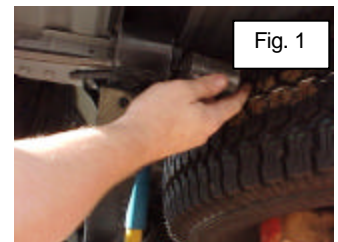

Fig. 1
3. If installing a Greaseable Super Shackle, remove the spring eye bushing/steel sleeve assembly from the spring eyes. See figure 1. Some of the frame shackle bushings need to be burnt out leaving the steel outer shell in the frame. Do not damage the outer shell. Clean with a wire brush or sandpaper.